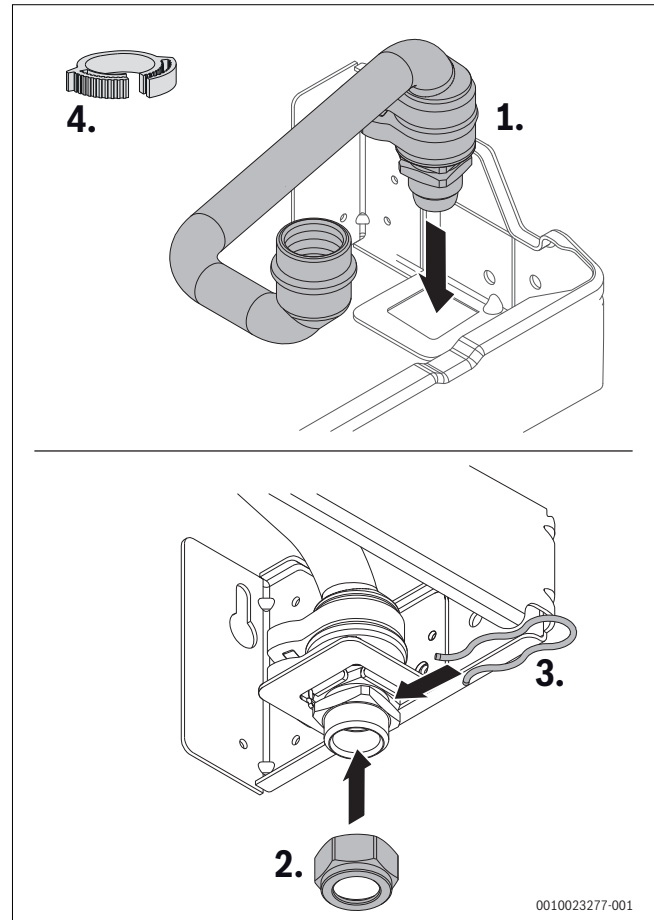
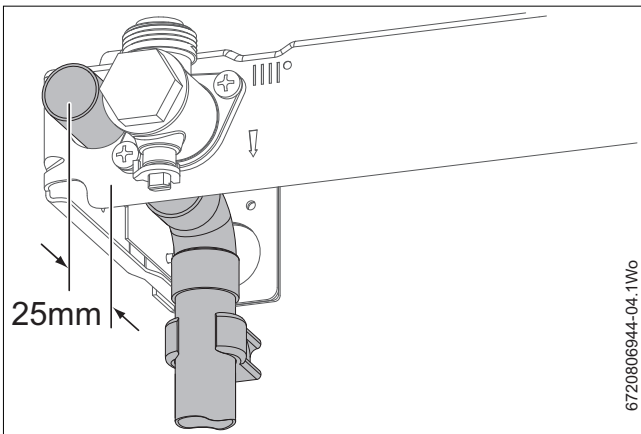

Fig. 46 Connect PRV discharge pipe
Fig. 48 Fitting the condensate pipes to the mounting plate
3. Ensure that 3 black plastic ratchet clips are securely fixed and tightened. Ratchet clip number 4 must be fitted but left loose until the boiler is hung and connection to the PRV is made (→ Fig. 46 and Fig. 48).